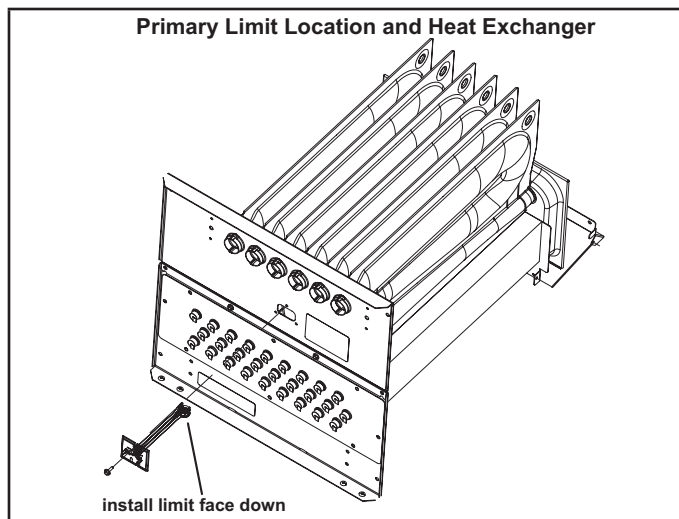

FIGURE 15
5. Duralock Plus Heat Exchanger (FIGURE 15)
FIGURE 15 shows the primary limit (S10) used on SLP99UHV units located in the heating vestibule panel. When excess heat is sensed in the heat exchanger, the limit will open. Once the limit opens, the furnace control energizes the supply air blower and de-energizes the gas valve. The limit automatically resets when unit temperature returns to normal. The switch is factory set and cannot be adjusted. In the event of restricted air flow, the integrated control will reduce firing rate and indoor blower airflow in 10% increments until a sustainable air flow is reached. If the furnace reaches 35% firing rate, and adequate air flow is not available, the furnace will shutdown and enter one hour watchguard. For limit replacement remove wires from limit terminals and rotate limit switch 90 degrees. Slowly remove from the vestibule panel.